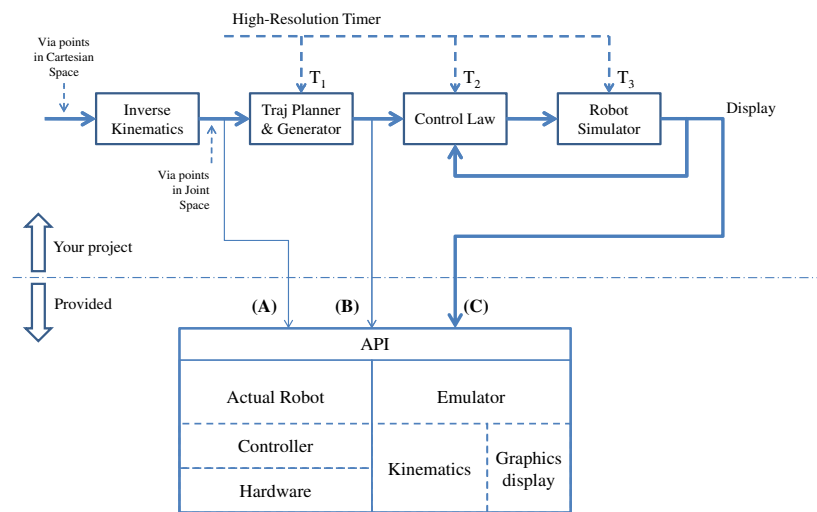

Figure 2: Block diagram of your robot programming system: ROBSIM
Integrate the above modules into a robot programming system. See Figure 2 for a block diagram of your overall system.
Hardware/emulator APIs. As shown in Figure 2, you may want to “drive” the hardware/emulator in different places (i.e., (A), (B) and (C)), and different functions need to be used.
1. *MoveToConfiguration(conf)* for (A), to move the robot to a given configuration. It will use maximum velocity and acceleration for the motion. This function is for both hardware and emulator.
2. *MoveWithConfVelAcc(conf, vel, acc)* for (B), to move the robot such that it moves with desired velocity (vel) and acceleration (acc). This function is for both hardware and emulator. Be aware that in current implementation of this function, due to the limitation of hardware programming interface provided by the manufacturer, only velocity (vel) argument is used. Because of this simplification, there may be a slight drift at the end of the trajectory. But in your own controller, you should take all configuration, velocity and acceleration into consideration.
3. *DisplayConfiguration(conf)* for (C), simply display the robot under the given configuration. This function is for emulator only.
Please note that you must use the command corresponding to the letter at the output of the module as shown in Figure 2 to move the robot - real robot or the virtualrobot (emulator). In above functions, the arguments used for configuration/velocity/acceleration are double arrays of size 4, corresponding to 4 joints. Please read the provided header file *ensc-488.h* for more details. Pay attention to units used for arguments. For revolute joints, they accept *degree* for joint value, *degree/s* for velocity, and *degree/s²* for acceleration; for prismatic joints, they accept *mm*, *mm/s* and *mm/s²* respectively.